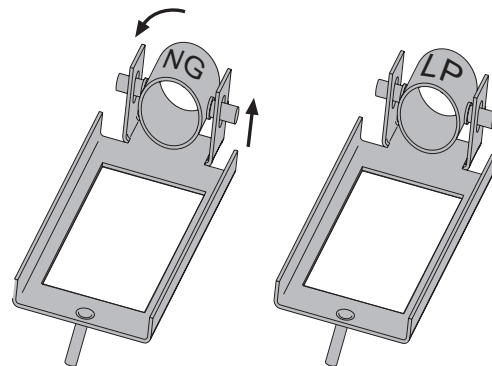

Figure 3. Primary air shutter orientation must be changed for fuel type.
6. Change the Air Shutter position: Lift the shutter tube up in its hinge pin slots and turn the tube over, so that the appropriate fuel type indicator (LP or NG) is oriented facing you. See fig. 3. Push the shutter all the way back over the injector.